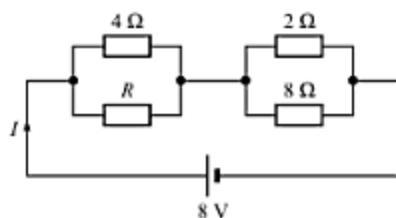

Fig. 2.48
22. If the total power dissipated in the network shown in Fig. 2.48 is 16 W , calculate the value of R and the total current.